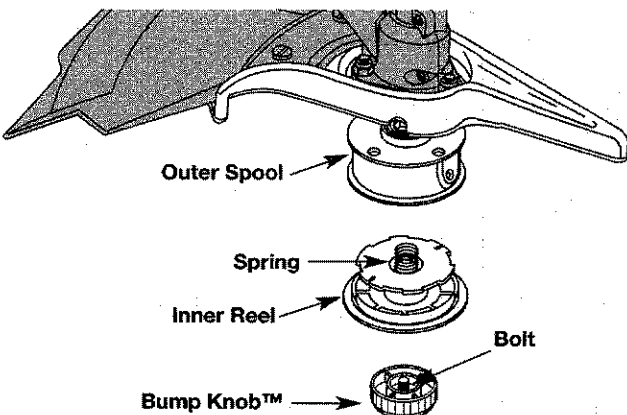

Fig. 32
1. Hold the outer spool with one hand and unscrew the Bump Knob™ clockwise (Fig. 32). Inspect the bolt inside the Bump Knob to make sure it moves freely. Replace the Bump Knob if damaged.
2. Remove the inner reel from the outer spool (Fig. 32).
3. Remove spring from the inner reel (Fig. 32).
- Hold the outer spool with one hand and unscrew the Bump Knob counterclockwise (Fig. 32, Pg. 19). Inspect the bolt inside the Bump Knob to make sure it moves freely. Replace the Bump Knob if damaged.
- Remove the old inner reel from the outer spool (Fig. 32, Pg. 19).
- Remove the spring from the old inner reel (Fig. 32, Pg. 19).